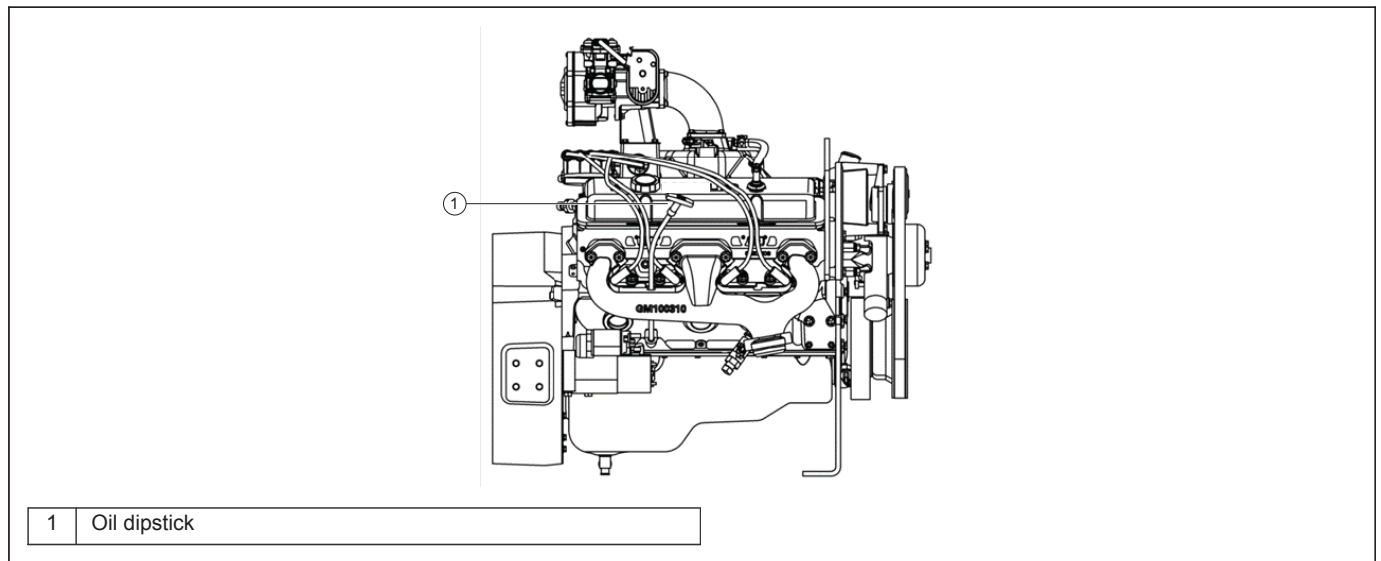

Figure 19: Oil Dipstick Location
2. Pull out the oil dipstick. See Figure 19.